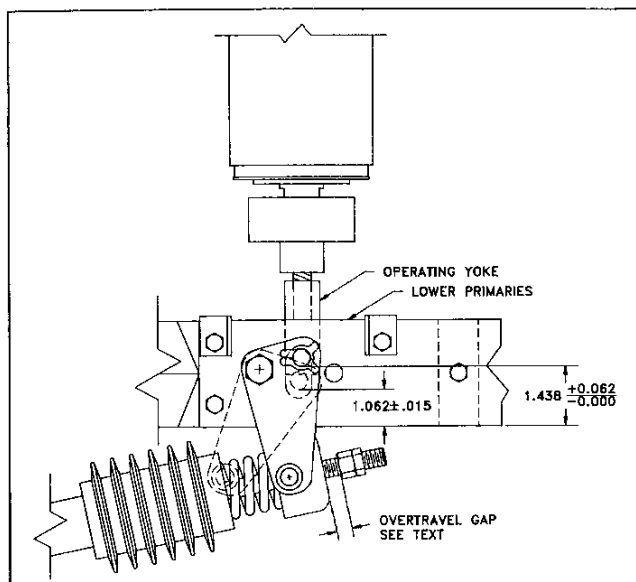

Figure 2. Operating Yoke Adjustments
At each inspection, the vacuum interrupters should be checked for contact erosion. The breaker must be closed for this check. Each new vacuum interrupter is set with a gap of 0.500 inch to 0.625 inch between the contact loading spring yoke and the nut on the pushrod. Because the factory setting of the overtravel gap varies slightly for each interrupter, a label is provided on the lower part of each interrupter. The original factory setting of the overtravel gap and the end-of-life measurement of this gap are recorded on the label. When the overtravel gap measurement reaches the end-of-life value given on this label the interrupter should be replaced. See Figure 2.
operating yoke should be $1.438" +0.062" -0.000"$ above the bottom of the lower main primary disconnect bars. See Figure 2.
- d. As explained in the description of the mechanism operation, when the breaker is closed a gap will exist between the contact loading spring yoke and the nut on the push rod stud, Figure 2. With a new vacuum interrupter, this gap will be between 1/2 inch and 5/8 inch. As the contacts erode, the gap will reduce to about 3/16 inch.
(3) Primary Resistance Values
- Unscrew and remove the operating yoke at the lower end of the vacuum interrupter (Figure 2).